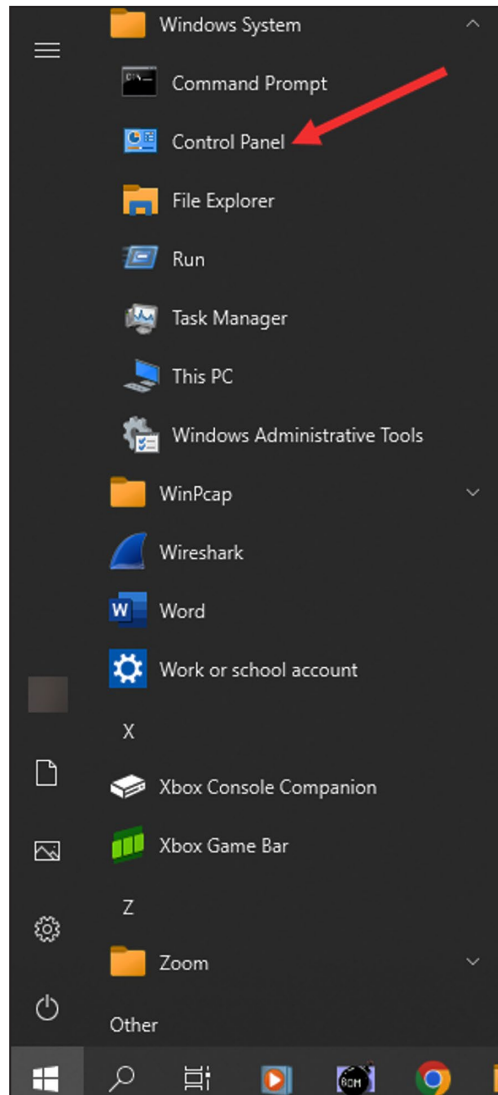

Figure 26. The Windows Start Menu.
- STEP 2.** Click on the **Start** button, and select the **Control Panel** option. See Figure 26.